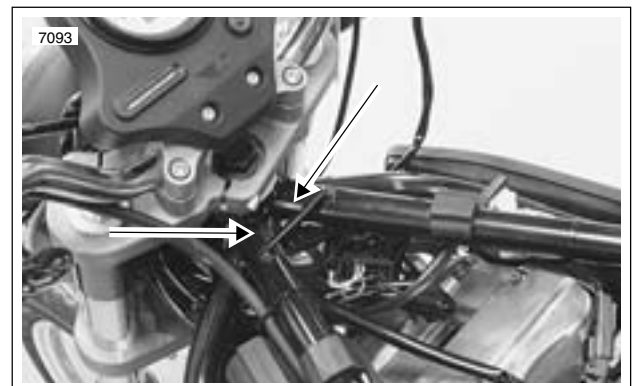

Figure 1-34. Front Wheel Lifting Points
4. See Figure 1-34. Attach lifting straps to frame tubes behind steering neck. Raise front wheel off floor using a floor hoist and lifting straps.